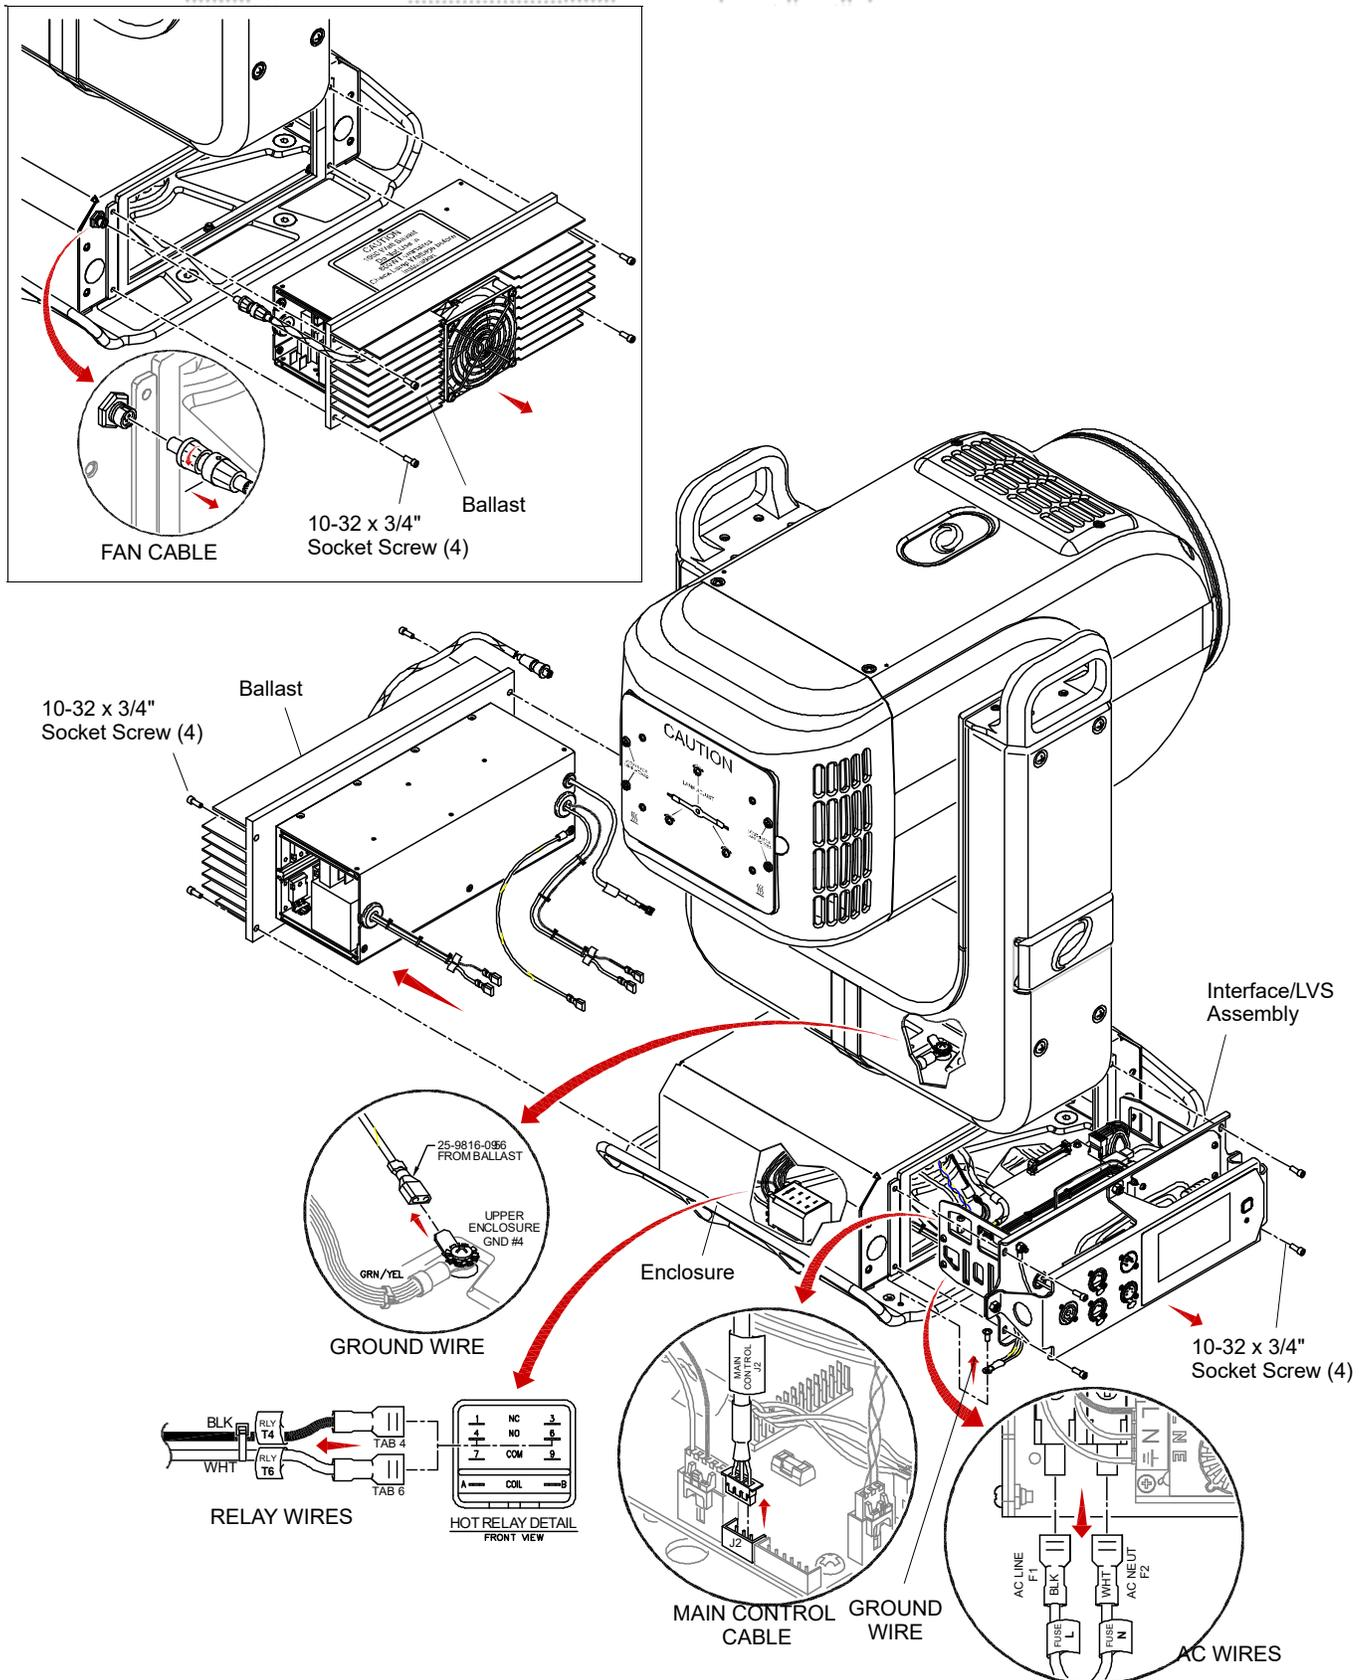

Figure 3-54: Removing Ballast
- a. At front of Interface/LVS Assembly, remove four 10-32 x 3/4" socket head screws (**Figure 3-54**).